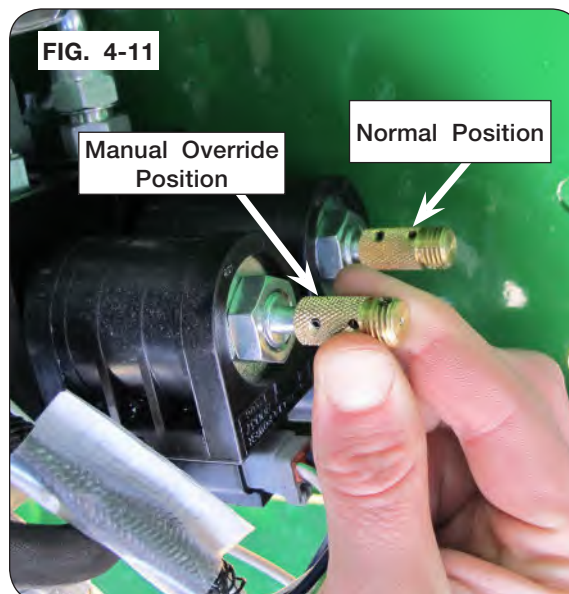

FIG. 4-11
6. Pull and hold the knob out on valve from normal position to manual override position. (FIG. 4-11)